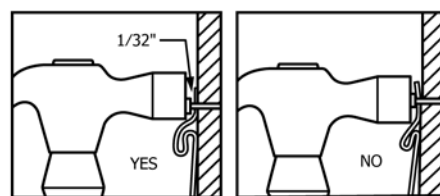

FIG. 6 Attachment of Vinyl Siding
9.1.1 When applied, vinyl siding products must be attached “loosely,” leaving approximately a 1/32-in. (0.8-mm) space between the vinyl and the fastener head or crown to permit thermal movement. (See Fig. 6.)